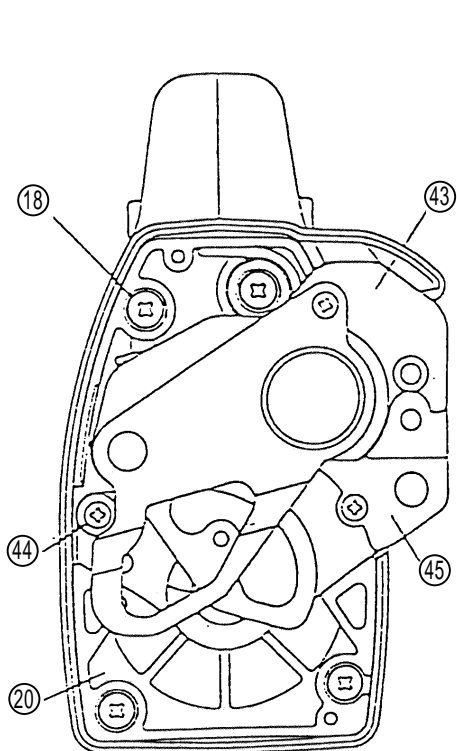

Fig. 3
- (b) Remove the Gear Cover ②①. (See Fig. 3)